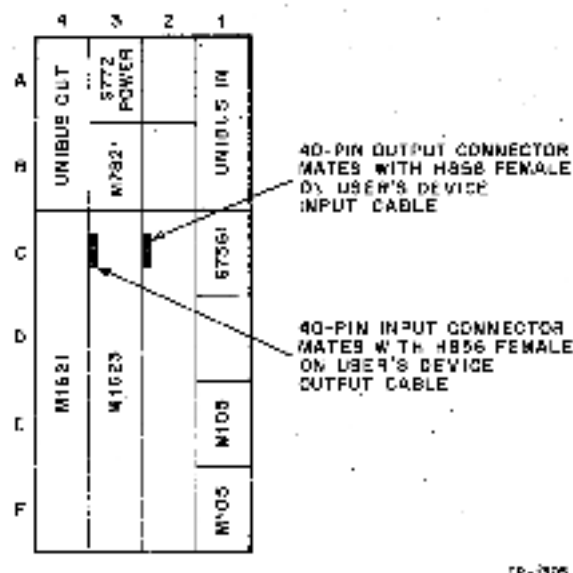

Figure 2-6 DECKit11-M Slot Assignments - Module Side
Figure 2-6 shows the DECKit slot assignments from the module side. Install the modules into the specified slots, paying particular attention that modules M105 installed in slots E01 and F01 are the proper modules for these slots as determined by the module address selection jumpers (Paragraph 2.5). After installation, secure the modules with the H852 and H853 module holders. Fasten one H853 module holder between module locations E and F and fasten the other H853 between locations C and D. The H852 module holder is fastened between locations B and C. Slots AB01 and AB04 are the Unibus input/output slots. The use of these slots varies with the type of installation and is discussed in Paragraph 3.3.1. Slots ABCDEF02 and D01 are not used by DECKit I-M, but are provided to accommodate an additional I/O module (M1621, M1623, M1801, or a Small Peripheral Controller) as determined by the user. Paragraph 2.13 discusses DECKit I-M variations.
Rather than using the I/O modules specified in Figure 2-6 for slots C02-E02, C03-E03, and C04-E04, the user may install M1621, M1623, M1801 (16-bit relay output interface, or Small Peripheral Controller modules (module type specified by user) into all three locations, or in any combination up to a maximum of three modules.
Installation of DECKit11-M into a cabinet containing other system units requires an M920 Unibus connector module. The M920 module plugs into slot AB04 of the existing system unit and into slot AB01 of DECKit11-M (Figure 2-6). When the DECKit is installed as the first system unit in an expansion box, a BC11A-XX* cable of correct length is required to connect between slot AB04 of the last system unit in the cabinet or previous extension box and slot AB01 of the DECKit. Neither the M920 module nor the BC11A-XX* cable is supplied with DECKit11-M. An M930 terminator module must be installed in slot AB04 of the DECKit (Figure 2-6) when DECKit11-M is the last device on the Unibus. The M930 module becomes available when the Unibus is extended from the previous system unit.
Two cable assemblies are required for interfacing DECKit I-M (normal configuration) to the user's I/O device. Input signals to the DECKit are applied through a 40-pin male connector mounted on the M1621 module in slots C04-F04 (Figure 2-6), while output signals from the DECKit are brought in a 40-pin male connector on the M1623 module in slots C03-F03 (Figure 2-6). The 40-pin connectors on the modules mate with 11856 40-pin cable terminators. It is recommended that cable assemblies from the following list be used to interface the DECKit with the user's I/O device. Cable selection is determined by the type of connections used on the I/O device. The desired cable length (XX) must be specified when ordering.
2. Plug the Unibus cable or an M920 Unibus connector module (whichever applies) into slot AB01 (Figure 2-6) of the DECKit.
5. Connect the user's I/O device input and output cables to the 40-pin connectors on the M1621 and M1623 modules (Figure 2-6).